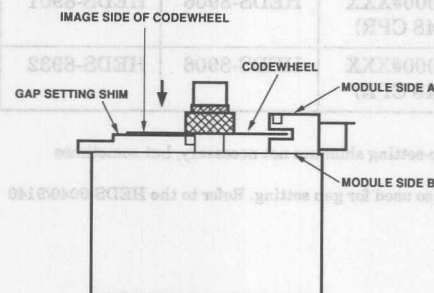

Figure 2. Alignment Tool is Used to Set Height of Codewheel.
- (a) Place HEDS-8901 or HEDS-8932 gap setting shim on motor base flush up against the motor shaft as shown in Figure 2. The shim has two different size steps, choose the one that most closely matches the width of the codewheel boss. The shim